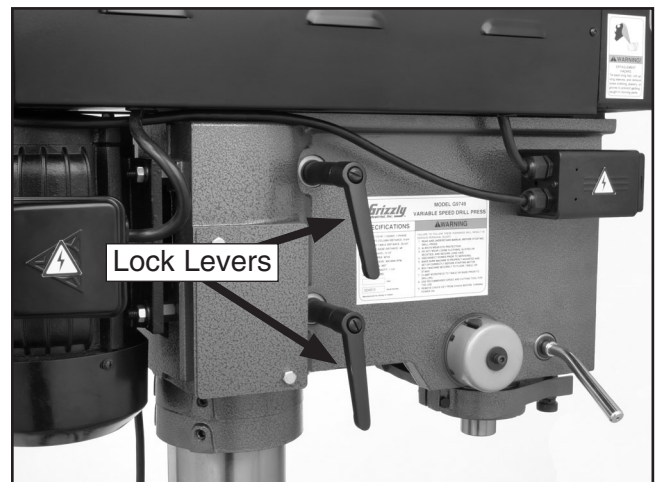

Figure 20. Headstock lock levers.
2. Rotate the two headstock lock levers counter-clockwise to loosen them (see **Figure 20**).